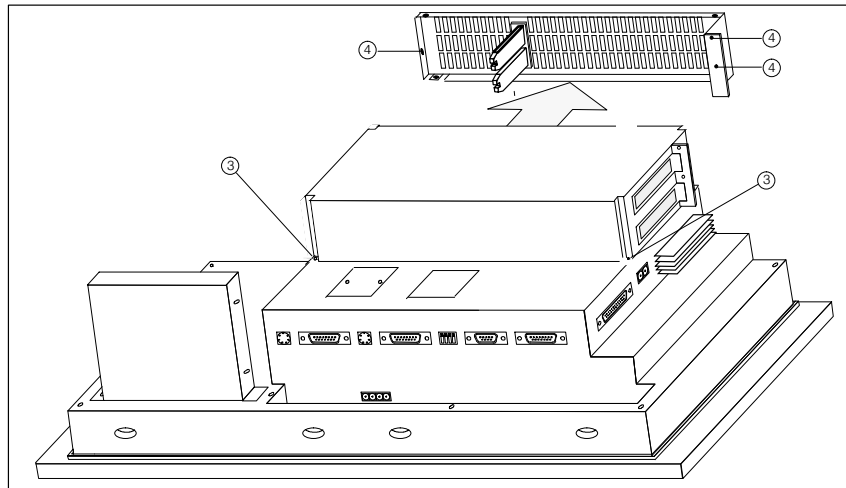

Figure 5-2 Removing the side panel
4. Secure the AT expansion box with two of the four enclosed screws ③ to the OP (Figure 5-2).
5. Undo the three screws (refer to Figure 5-2) identified by ④ and remove the side panel.